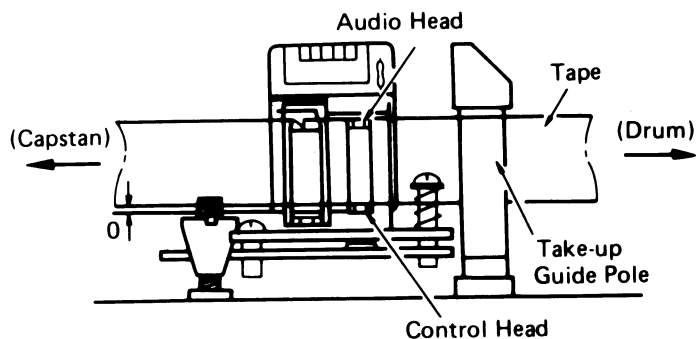

Fig. 25 Control head phase adjustment
8. Tighten adjustment nut and slide the A/C head assembly slowly in the direction of the arrow as shown in Fig. 25.